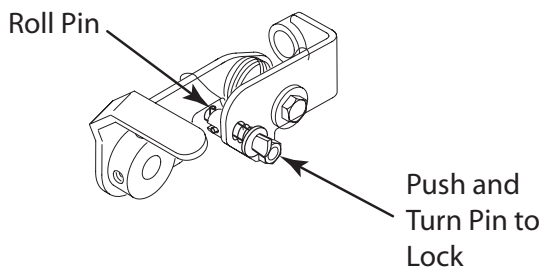

FIGURE 2-2
2. Lock the Tiger Striper up in the transport position by lifting upward on the handle, push and turn the lock pin 90 degrees. The small roll pin must be out of the slot in the bracket to lock in the transport position. See Figure 2-2.